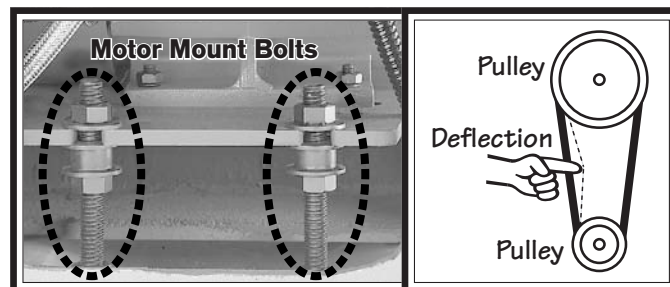

Figure 124. V-belt adjustment.
3. Adjust the hex nuts on the motor mount bolts shown in **Figure 124** to move the motor mount plate up or down and adjust the V-belt tension. When correctly tensioned, each belt should have about 3/4" deflection when pressed firmly (see **Figure 124**).